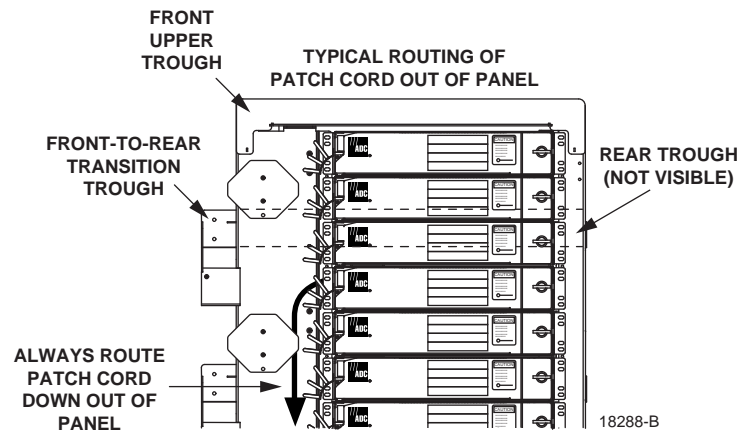

Figure 52. Routing FOT Patch Cords Out of Panel - Interconnect Applications
6. Route the patch cord out and down from the panel as shown in Figure 52.